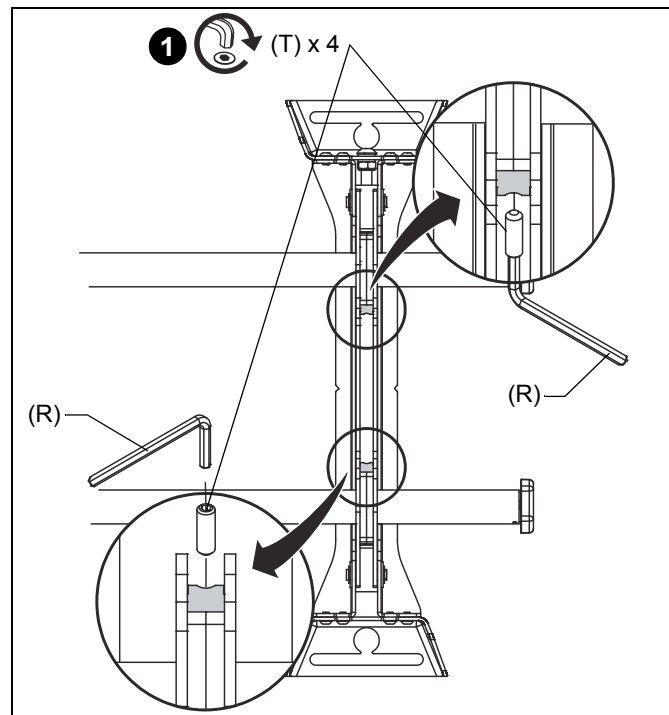

Figure 4
1. Lock rails into place using two 1/4-20 x 3/4" set screws (T) on mount upright (CC) and the 1/8" hex key (R). (See Figure 4)
**NOTE:** To easily install upper set screw against upper rail, place set screw (T) onto hex key (R), and feed up into hole while turning to tighten.